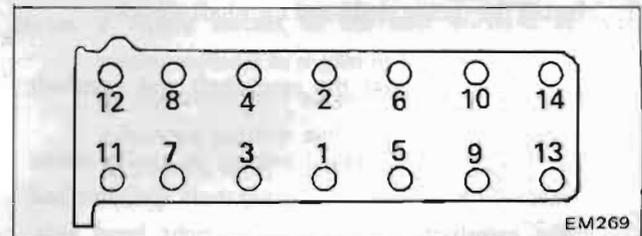

Fig. EM-85 Tightening sequence
(1) Thoroughly clean the cylinder block and head surface. Do not apply sealant to any other part of the cylinder block and head surface.
(2) Turn the crankshaft until No. 1 piston is at T.D.C. on its compression stroke.
(3) When installing the cylinder head, make sure that all valves are apart from head of pistons.
(4) Do not rotate the crankshaft and the camshaft separately, because valves will hit head of pistons.
(5) Tighten the head bolts using the special tool "Cylinder Head Bolt Wrench ST10120000" to the specified torque. Head bolts should be tightened in three steps according to the tightening sequence as shown in Figure EM-85.